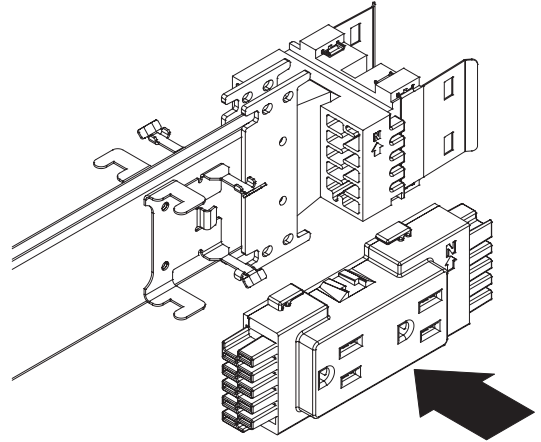

FIG. 1
1. Position the receptacle on either end of the wireway as shown (depending on location desired), matching the (N) symbol to the same orientation on both the receptacle and wireway.
2. Align the receptacle so the end is in line with the inner socket on the wireway (Figure 1).
3. Push the receptacle back against the mounting plate (Figure 1).